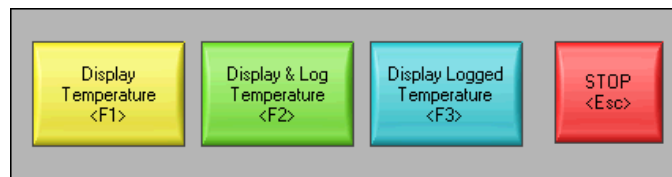

Figure 4.4
The front panel contains four Boolean buttons (Figure 4.4). The mechanical action of the first three buttons is `Latch When Pressed`. This setting changes the control value when you click it and retains the new value until the VI reads it once. At this point the control reverts to its default value, even if you keep pressing the mouse button. This action is similar to a circuit breaker and is useful for stopping `While Loops` or for getting the VI to perform an action only once each time you set the control. The mechanical action of the `Stop` button is `Latch When Released`. This setting changes the control value only after you release the mouse button within the graphical boundary of the control. When the VI reads it once, the control reverts to the old value. This action guarantees at least one new value. This action is similar to dialog box buttons and system buttons.
3. In the `Key Assignment` section, assign the shortcut key shown in the Figure 4.4.
4. Repeat list, item 2, p. 80 and list, item 3, p. 80 for each control.